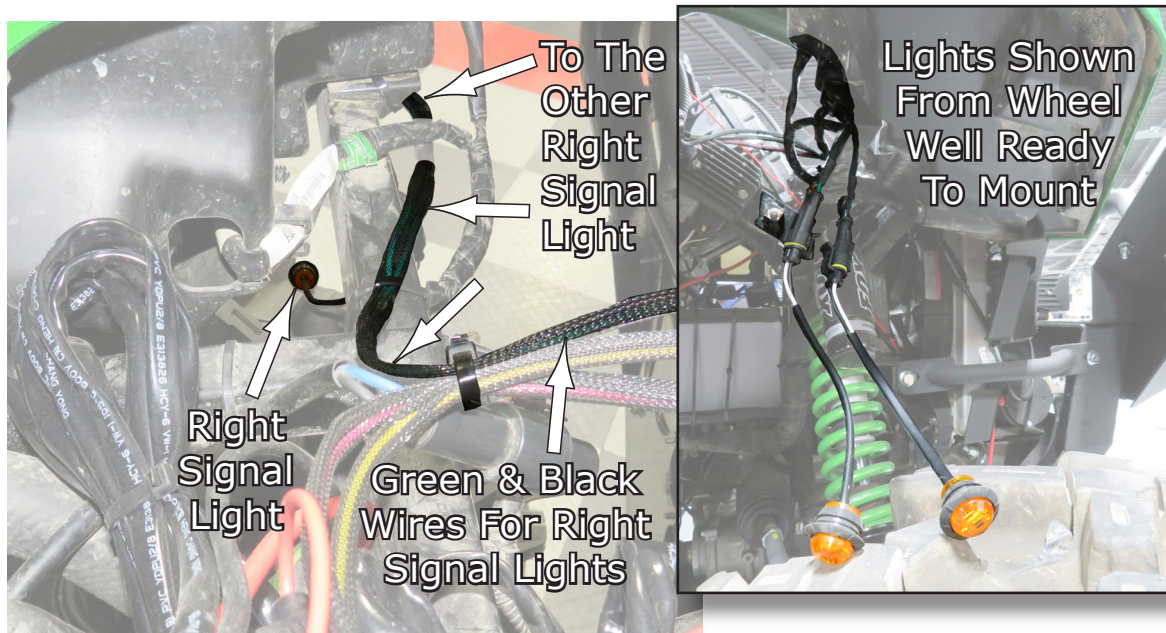

Fig.6
7. After the Control Box is mounted and plugged in from the harness, you can now run the Green & Black wire sets to the Passenger's Side Front Wheel Well area to locate a desired location to drill and mount your lights. See **Fig.6**.